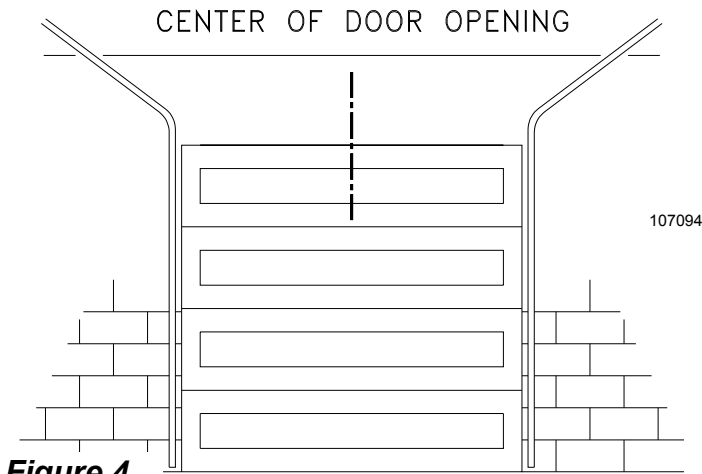

Figure 4
1) Locate the center of the door and mark a line on the wall directly above the door. Extend this line approximately 20" up the wall. See Figure 4.